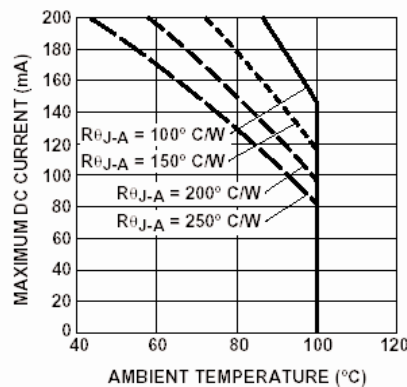

Figure 3b. Maximum Pulsed Forward Current vs. Ambient Temperature.
3. Derate linearly as shown in Figure 3b.